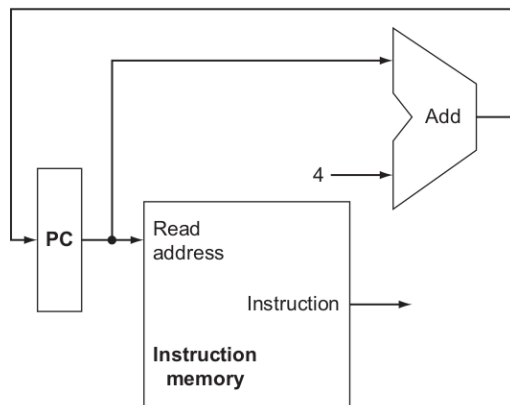

Figure 2: A portion of the datapath used for fetching instructions and incrementing the program counter.
1. If the only thing we need to do in a processor is fetch consecutive instructions (Figure 2), what would the cycle time be?